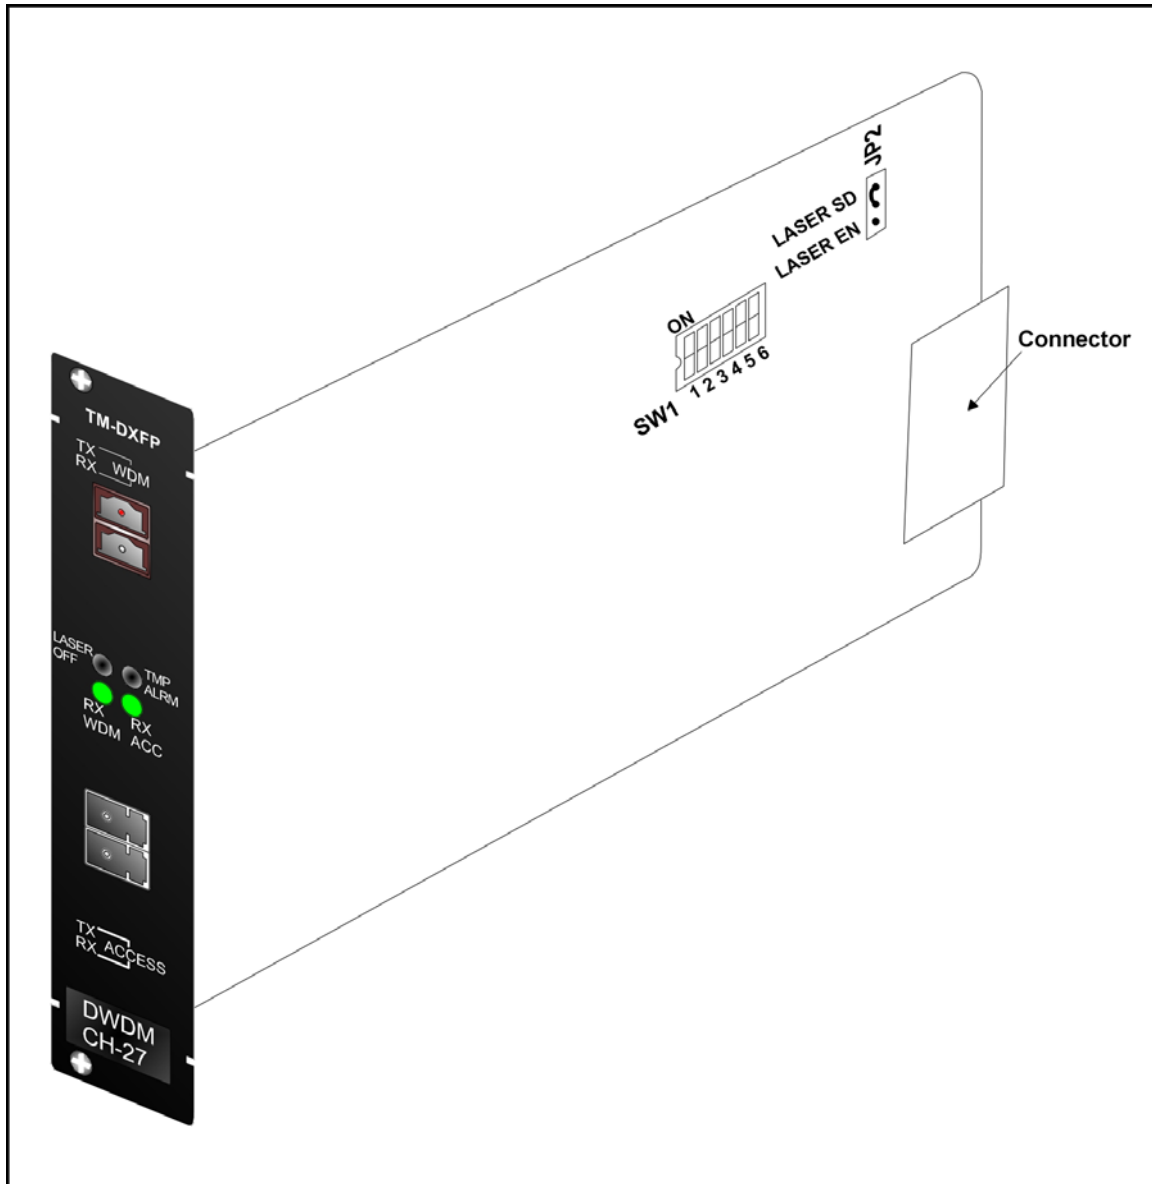

Figure 38: DIP Switch Location on TM-DXFP Transponder Module
1. With the aid of *Figure 38*, locate Jumper **JP6** on the TM-DXFP Transponder module and position it using *Table 14*.
2. With the aid of *Figure 38*, locate DIP switch **SW1** on the TM-DXFP Transponder module. and set it using *Table 15*.